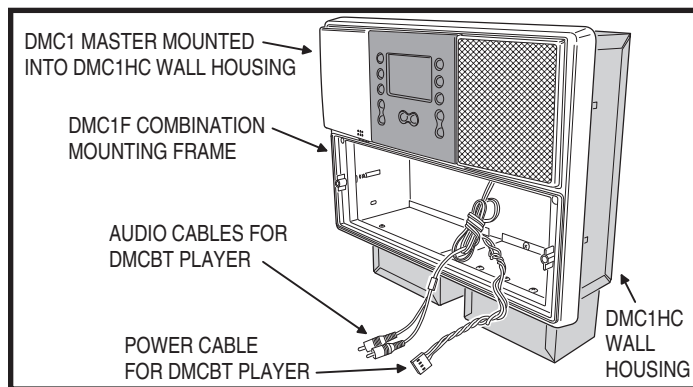

Figure 23. DMC1 & DMC1F Frame Ready for DMCBT Bluetooth Player
6. Secure the DMC1 Master Station to the wall housing using the two long screws provided (see Figure 23). **DO NOT OVERTIGHTEN THE SCREWS THE FRAME MIGHT DISTORT OR CRACK!**